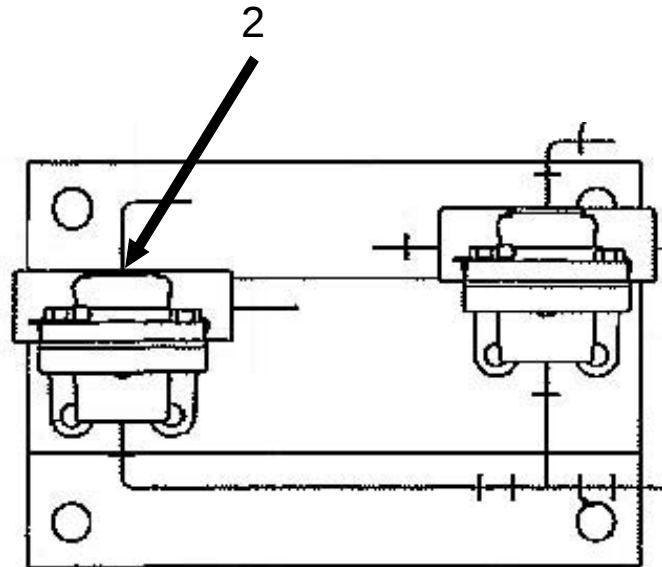

Figure 2 —
6. Locate the front of the nylon delivery line that feeds air from the treadle valve to the top port in the QRV shown in figure 2 (this line will also be a ½" red line connected to the top of the QRV, and the position is labeled number 2). Disconnect the air line.